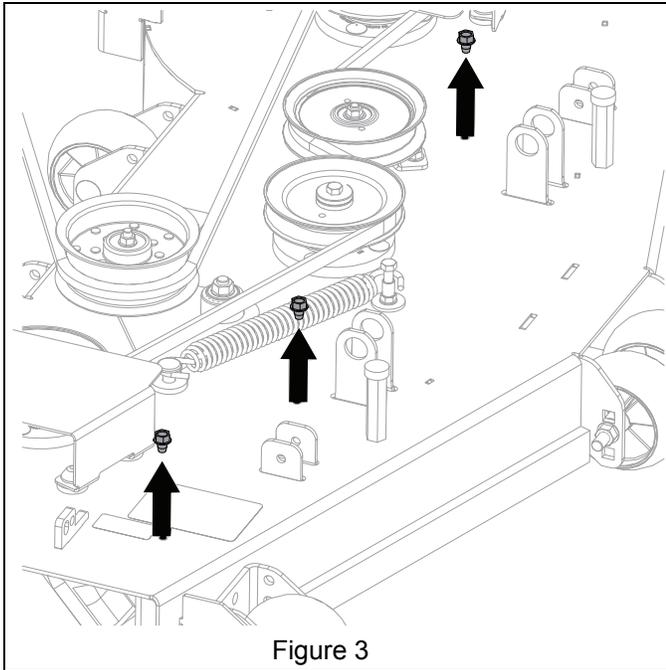

Figure 3
- Remove tapping screws from deck and retain for operation without mulch kit. See Figure 3.